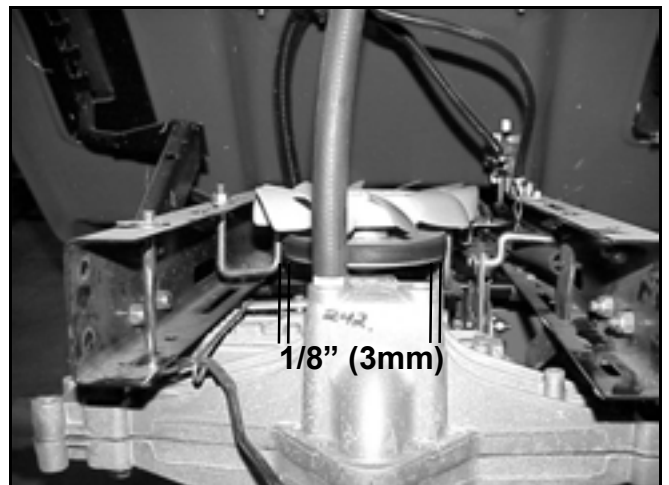

Figure 95
11. Adjust and tighten the right and left rear transaxle belt guides. Adjust the guides so they are within 1/8" (3mm) of the belt and pulley (Figure 95).